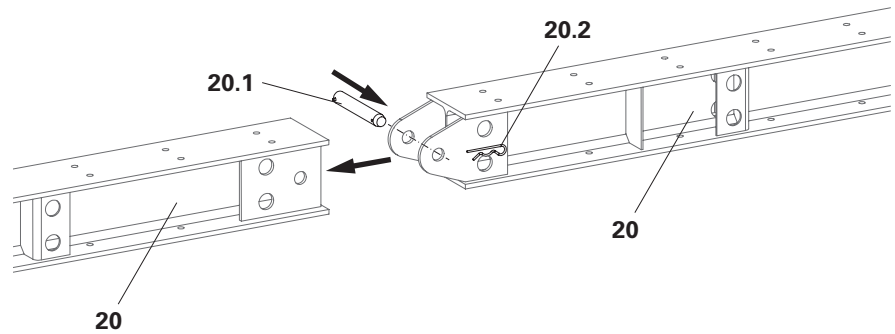

Fig. A6.10
3. Depending on the length, connect and secure base beam with bolts and cotter pins **(20.1 + 20.2)**. (Fig. A6.10)